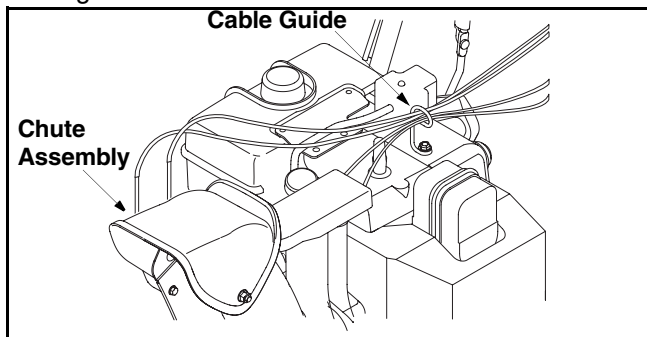

Figure 4
10. Slip the cables, running from the handle panel to the chute, into the cable guide located on top of the engine. See Figure 4.
11. Slip the cables, running from the handle panel to the chute control box, into the cable guide too. See Figure 4.